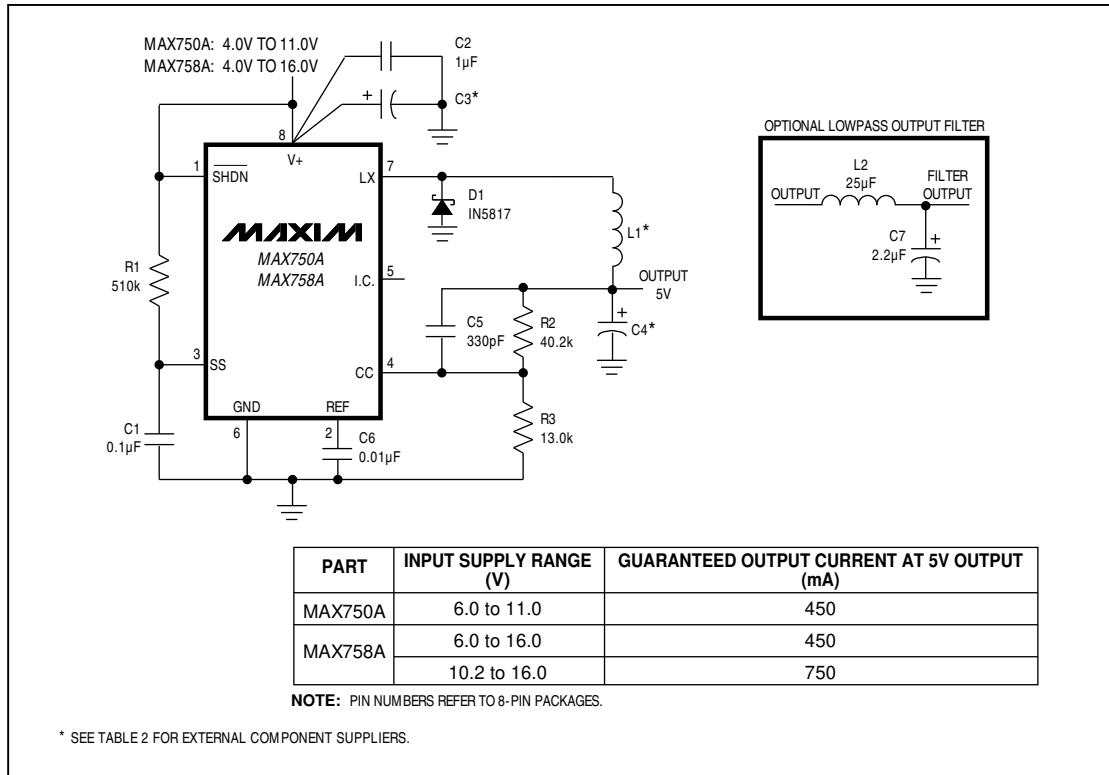

Figure 3. Standard Step-Down Circuit
(Circuit of Figure 3, $V_{OUT} = 5V$, $T_A = +25^\circ C$, unless otherwise noted.)
Figure 3 shows the MAX750A/MAX758A configured for a standard 5V step-down application. Table 2 lists the components for the desired operating temperature range. These circuits are useful in systems that require high current at high efficiency and are powered by an unregulated supply, such as a battery or wall-plug AC-DC transformer. They will operate over the entire line, load, and temperature ranges using the single set of component values shown in Figure 3 and listed in Table 2.
The MAX750A/MAX758A have outputs adjustable from 1.25V to the input voltage. To set the output voltage, connect a voltage divider to the feedback input pin (CC) as shown in Figure 3. The output voltage is set by R2 and R3 as follows:
A simple lowpass pi-filter (Figure 3) can be added to the output to reduce output ripple to about 5mVp-p. The cutoff frequency with the values shown is 21kHz. Since the filter inductor is in series with the circuit output, its resistance should be kept to a minimum so the voltage drop across it is not excessive.